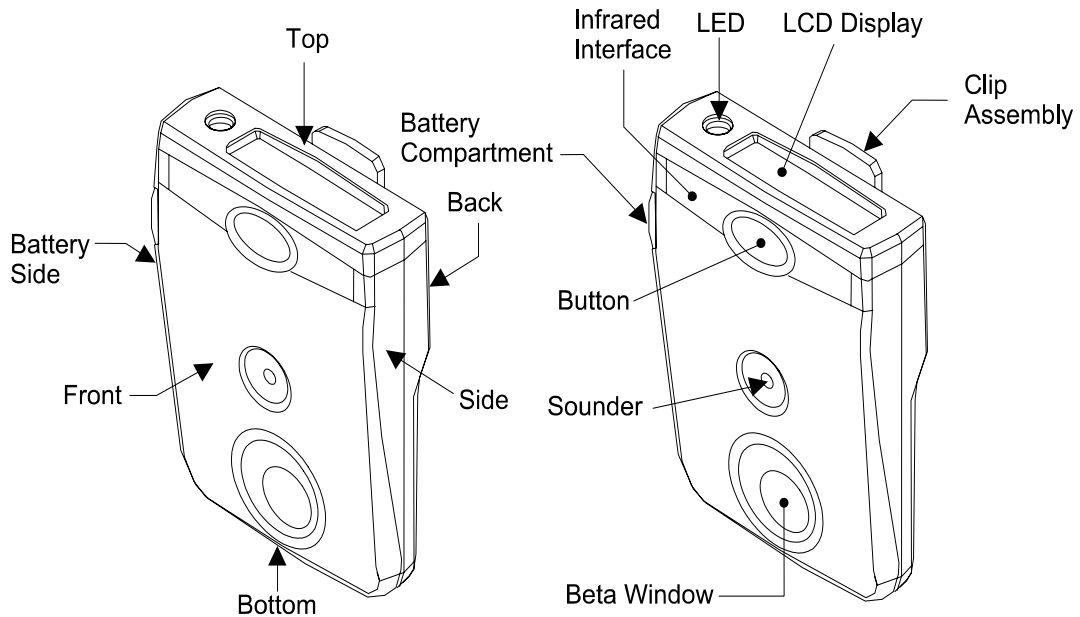

Figure 2.1 - External View Of The EPD
- (i) Hp(10) personal dose equivalent at a depth of 10mm of tissue ('penetrating', 'deep' or 'whole body' dose).
The EPD calculates both the accumulated dose and the dose rate for Hp(10) and Hp(0.07). These, and other data, are stored in an internal store (EEPROM) within the EPD. A button in the EPD case allows the user to retrieve this data from store, select a range of displays, acknowledge alarms and perform user control functions. Data is displayed to the user on a LCD display on the top of the EPD (see Figure 2.1). To minimise the loss of data from battery or other failure, data is saved to secure memory within the EPD every 15 minutes.
A general view of the EPD is shown in Figure 2.1. External features are described in Table 2.1.